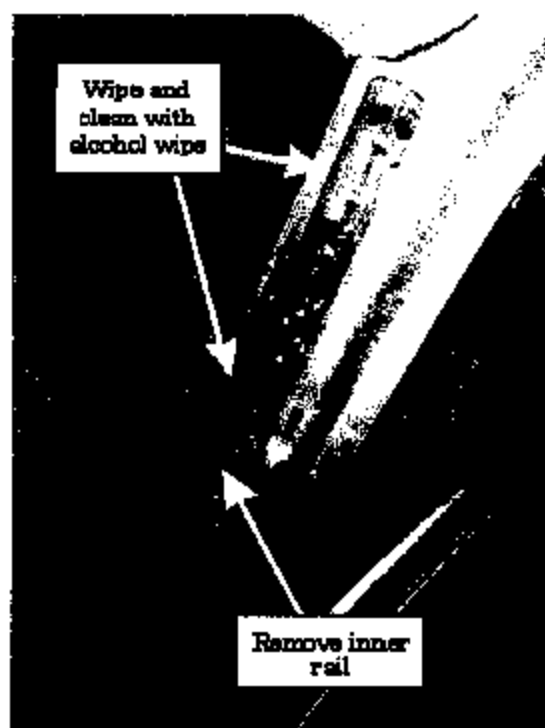

Figure 7: Remove inner rail.
6. Wipe and clean the contact area of the A-Pillar inner panel, inner rail, and roof panel reinforcement with alcohol wipe. (Figure 7 & 9)